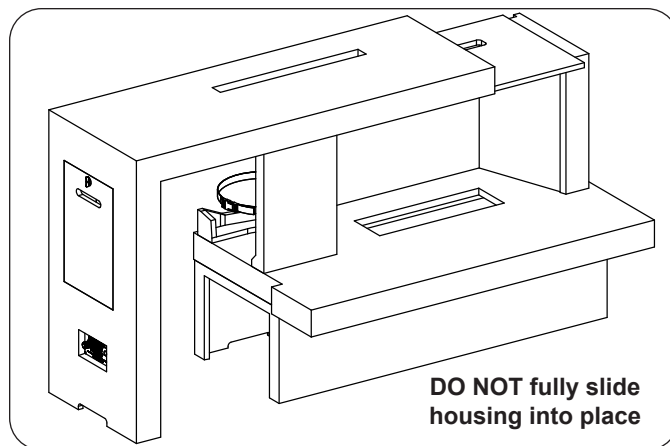

Fig. 21-3 Place housing in position
7. Place the housing piece in position, allowing enough space on the left side of the unit to make the gas connections (see Fig 21-3.).